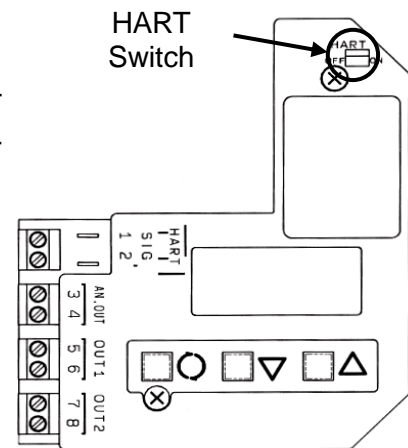

Fig. 5
*1: Refer fig.5 of “■ Switching HART Communication Function” for details.